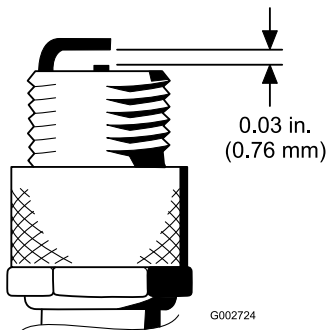

Figure 29
4. Set the air gap between the center electrode and side electrodes to 0.76 mm (0.030 inch); refer to Figure 29. Install the correctly gapped spark plug with the gasket seal, and tighten the plug to 23 N-m (200 in-lb). If a torque wrench is not used, tighten the plug firmly.